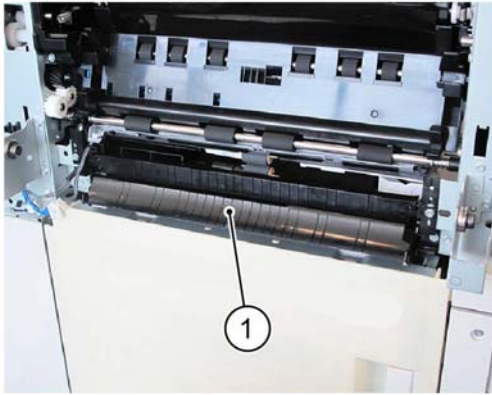

Figure 4 Feed out chute removal
7. Remove the feed out chute (1), Figure 4.